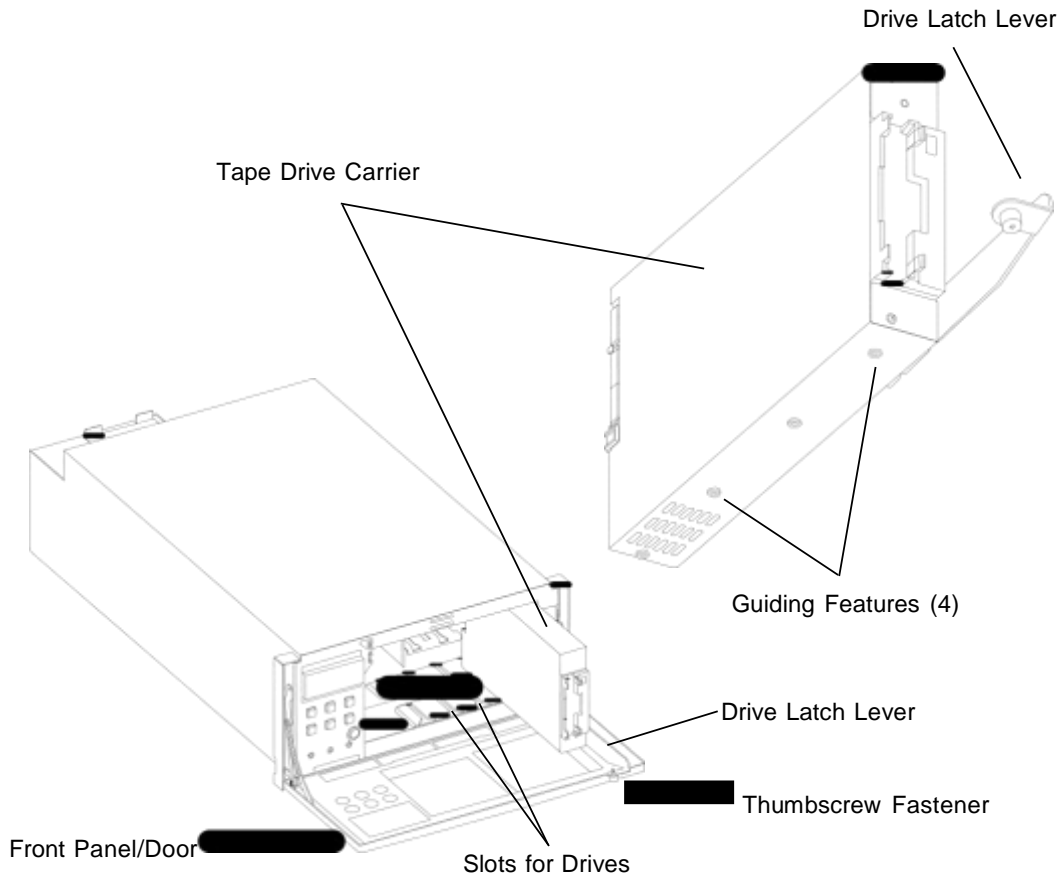

Figure 5-2 Drive Carrier Orientation
3. Orient the drive as shown in Figure 5-2. Make sure that the guiding features located on the bottom of the drive are aligned with correct slot in the RLS.